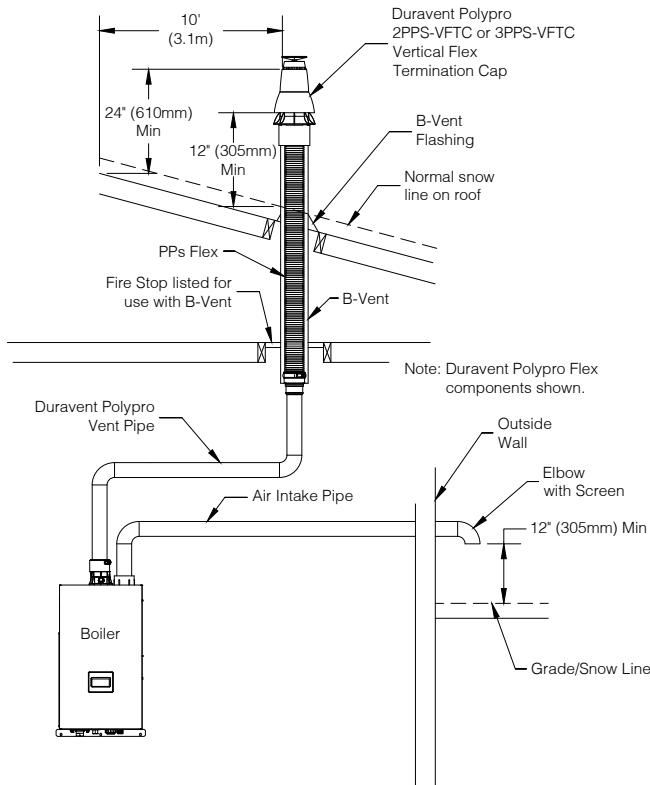

Figure 9-14: Polypropylene B-vent Chase with Sidewall Air Terminal
2. If any of above conditions is not met, terminate air piping through sidewall using PVC or polypropylene fittings per Figure 9-14.